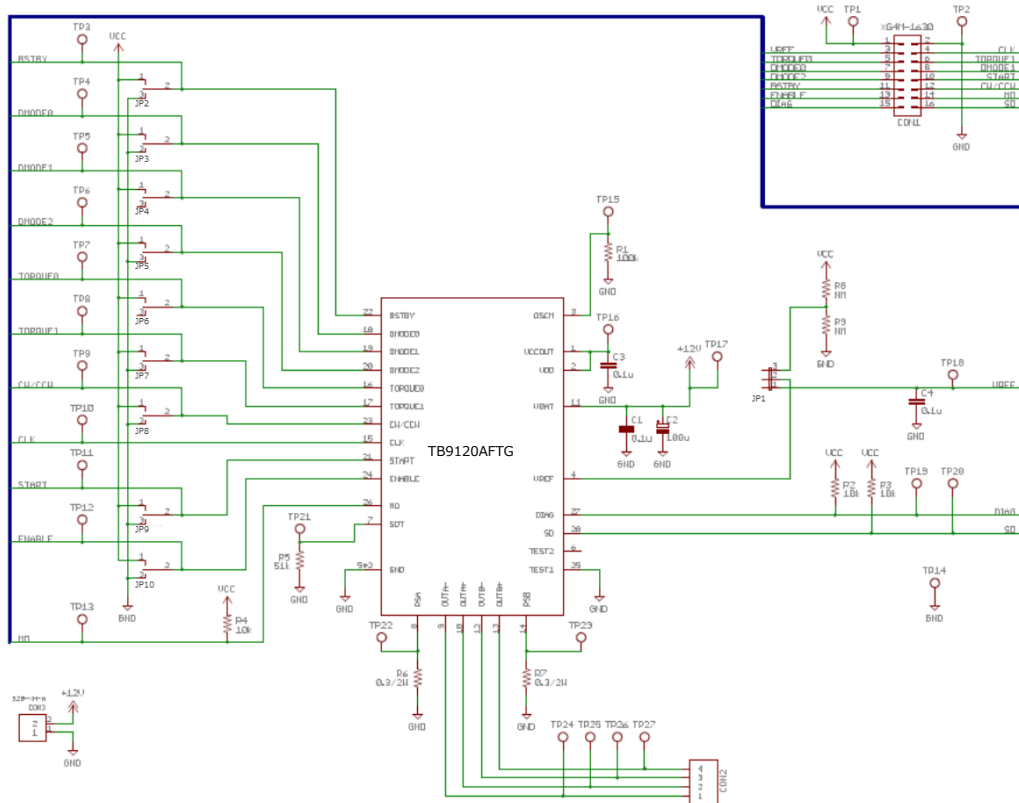

Figure 26. Circuit diagram of evaluation board
- Figure 26 shows the circuit diagram of the evaluation board.